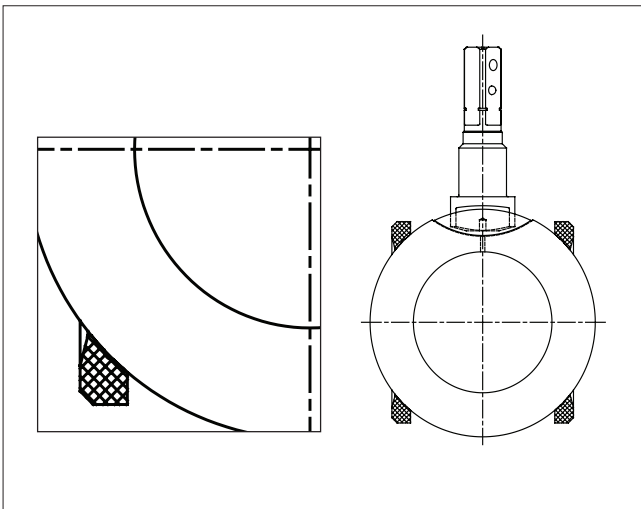

Figure 3. Proper Seat and Ball Orientation
3. Carefully clean and polish the ball (3) sealing surface: It should be free of all scratches and grooves.
5. With the body insert side facing up, slide one valve seat (7) sideways into the body (1) to below the stem bore, and tilt it into place so that the proper surface (see **Figure 3**) will be adjacent to the ball (3), being careful not to cut or scratch the seat.
14. Insert the ball (3) rotating it onto the stem (5) in the closed position. If necessary, turn the stem blade to align with the ball slot. Make certain that the stem blade is in the middle of the ball slot; i.e. equal distance from the ends of the slot. Rotate the ball if necessary (see **Figure 3**).
15. Gently place the body gasket (65) into the machined recess of the body (1).
16. Place the second seat (7) into the insert (2) so that the proper surface adjacent to the ball, (see **Figure 3**).